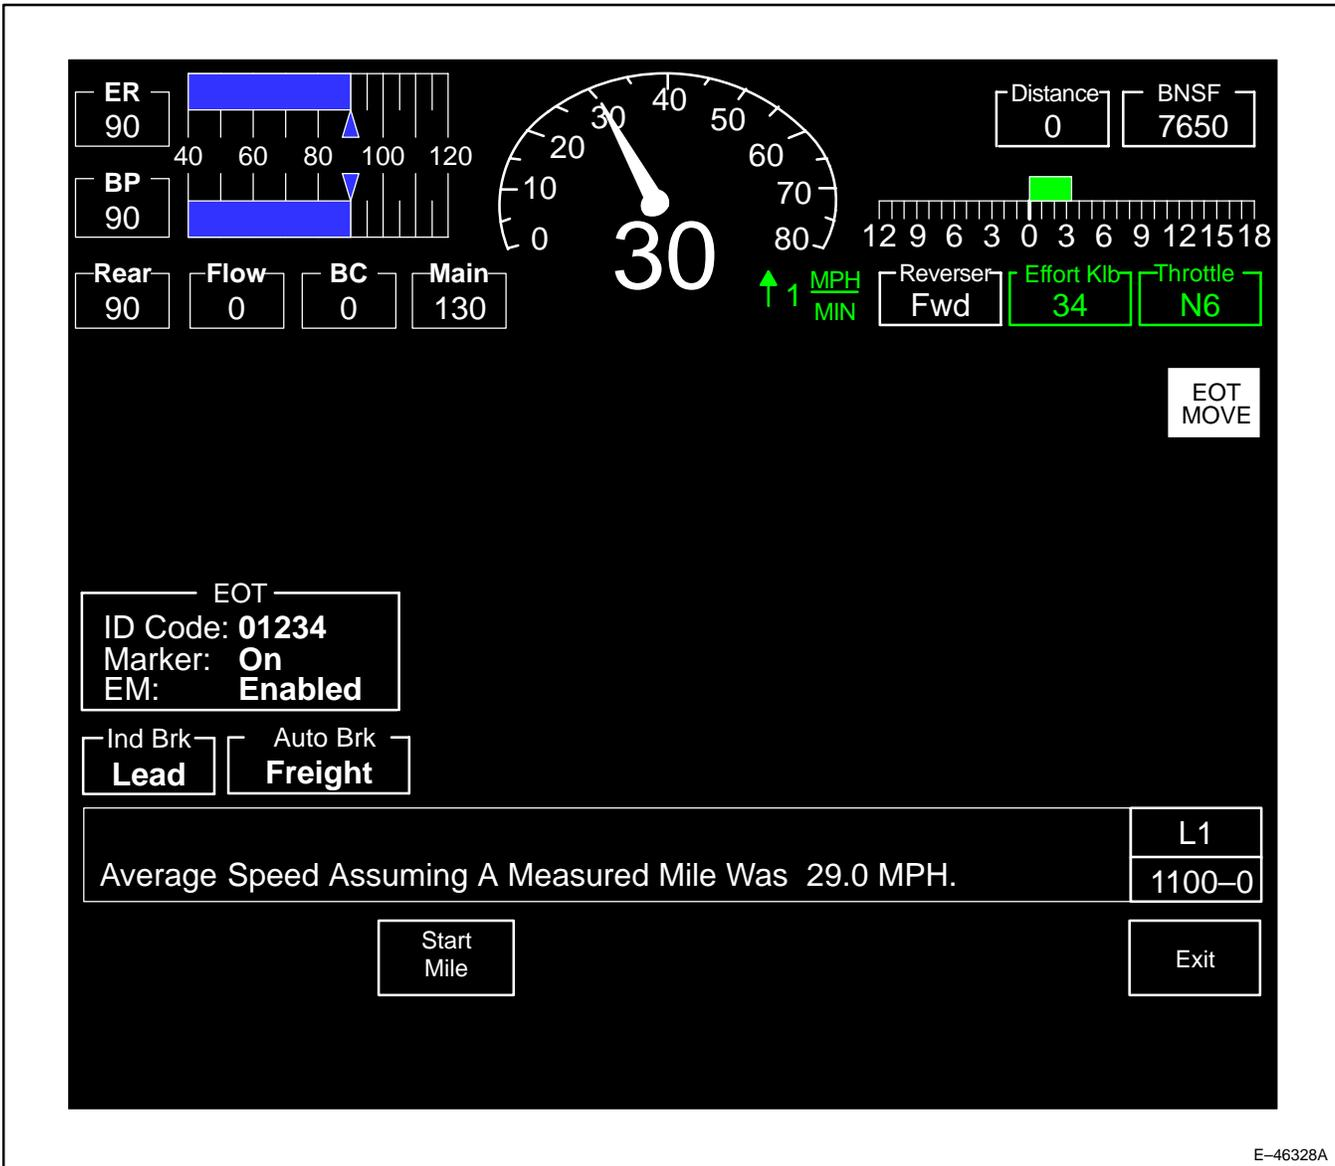

Figure 64. Measured Mile Operation Screen Average Speed (1100-0).
3. The Operator message area will read “Average Speed Assuming A Measured Mile Was xxx.xx MPH” (Figure 64).